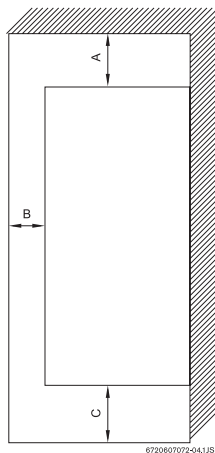

Fig. 7 Minimum clearances
**The GWH 715 ES is approved for installation on a combustible wall (see chapter 3.5 Mounting installation) provided the floor covering below the heater is noncombustible.** For installations in an alcove or closet, maintain the minimum clearances to combustible and non-combustible materials listed below. See also Fig. 7.